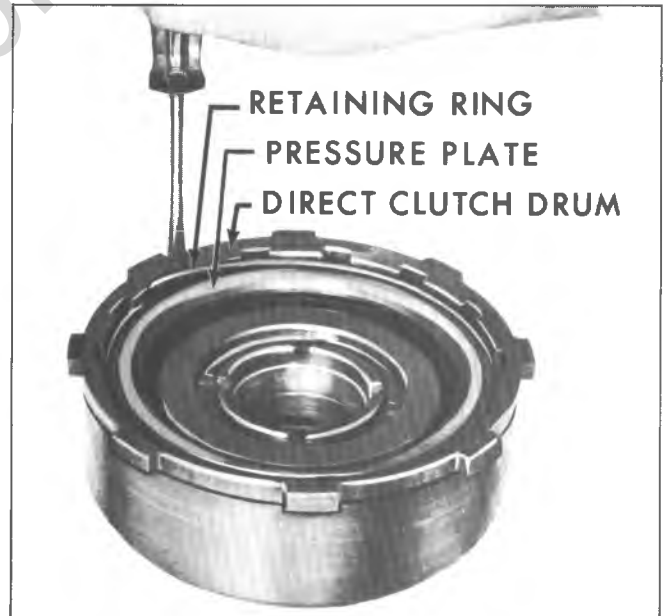

Fig. 70M--Removing Direct Clutch Pressure Plate
5. Remove direct clutch pressure plate to clutch drum retaining ring and pressure plate (fig. 70M).